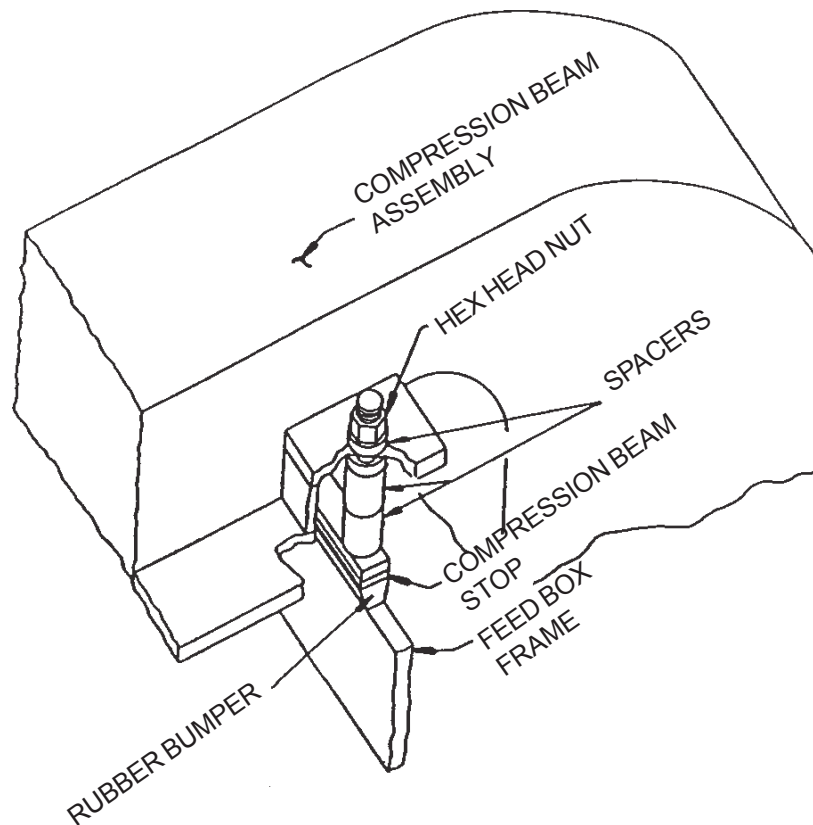

Figure 47, Typical Compression Beam Stop Installation
- As shown on Figure 47, install appropriate compression beam stops in relation to block height requirements.